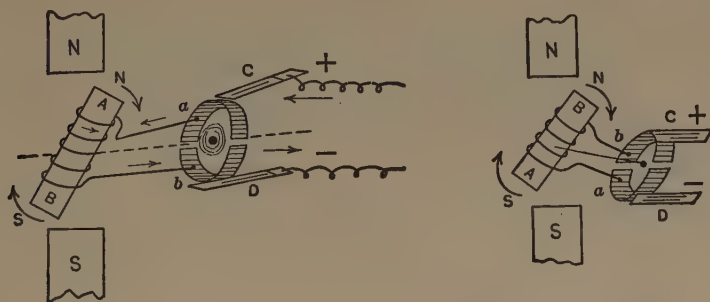

FIG. 215.—Principle of a simple electric motor.
**How a motor works.** In structure, a motor is like the generator; in fact, direct-current generators will run as motors. Mechanical energy is transformed by the generator into electrical energy, but the motor changes electrical energy into mechanical energy. Motion in the motor is brought about by magnetic action. In Fig. 215, current is brought through brush *C* to the segment of the commutator *a* and returns to the circuit through segment *b* and brush *D*. It passes around the soft-iron core of the armature *AB* in such a manner that the end *A*, which happens to be near the north pole of the field-magnet, is made a north pole.